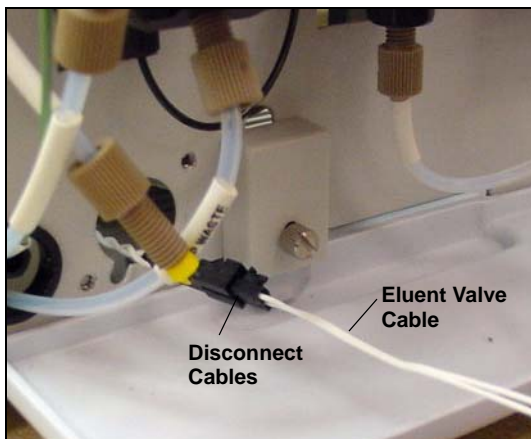

Figure 5-25. Eluent Valve Cable
- The cable is connected to a matching cable inside the ICS-2000. Continue pulling until the connectors for the two cables are outside the panel (see Figure 5-25). Disconnect the cables.